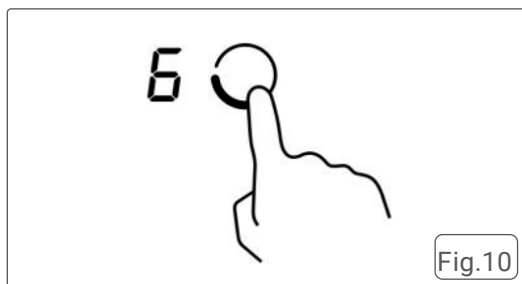

Fig.10
- Touch the heating zone selection control for the active cooking zone. Fig.10.